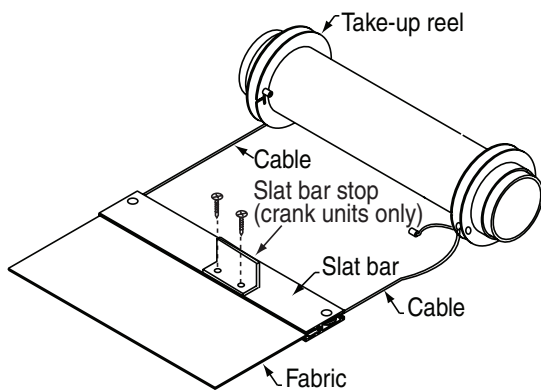

Figure 14
- For Motorized Units:** Wrap one end of the cable underneath and around the motorized roller so that about 3/4 of a revolution is achieved (see Fig. 14). Slide the cable into the slot provided in the take-up reel and seat the cable stop against the outer side of the take-up reel. Be sure that the cable is contained between the sides of the take-up reel.